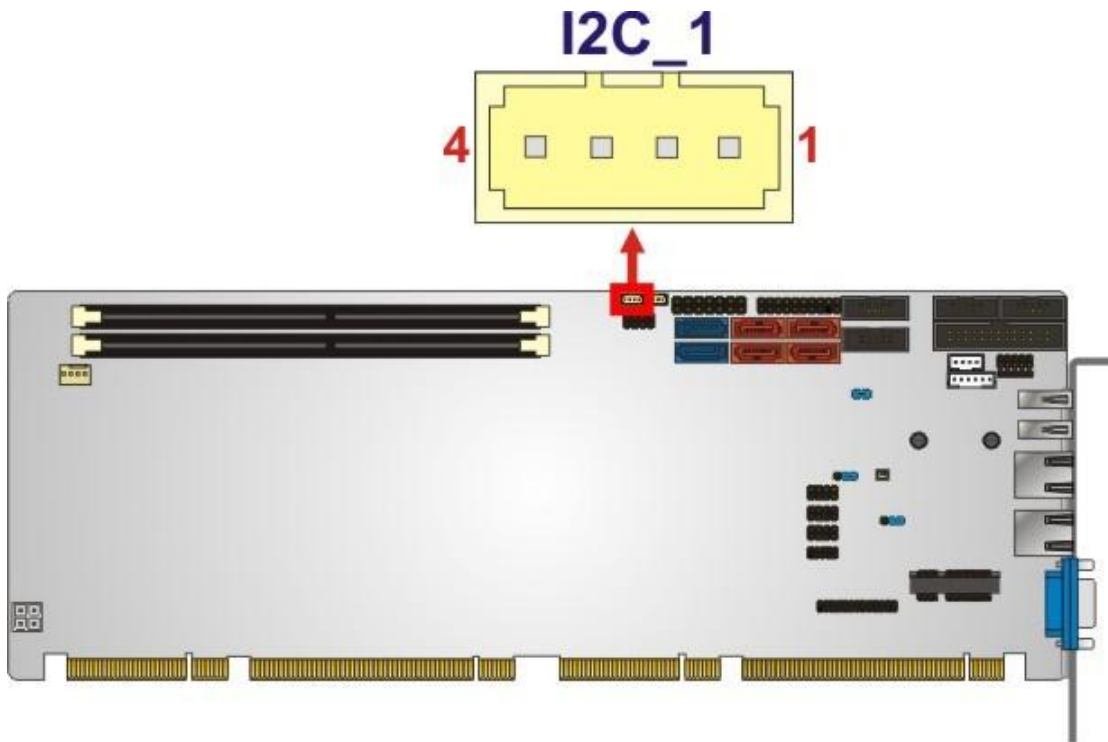

Figure 3-10: I²C Connector Location
- CN Location:** See Figure 3-10